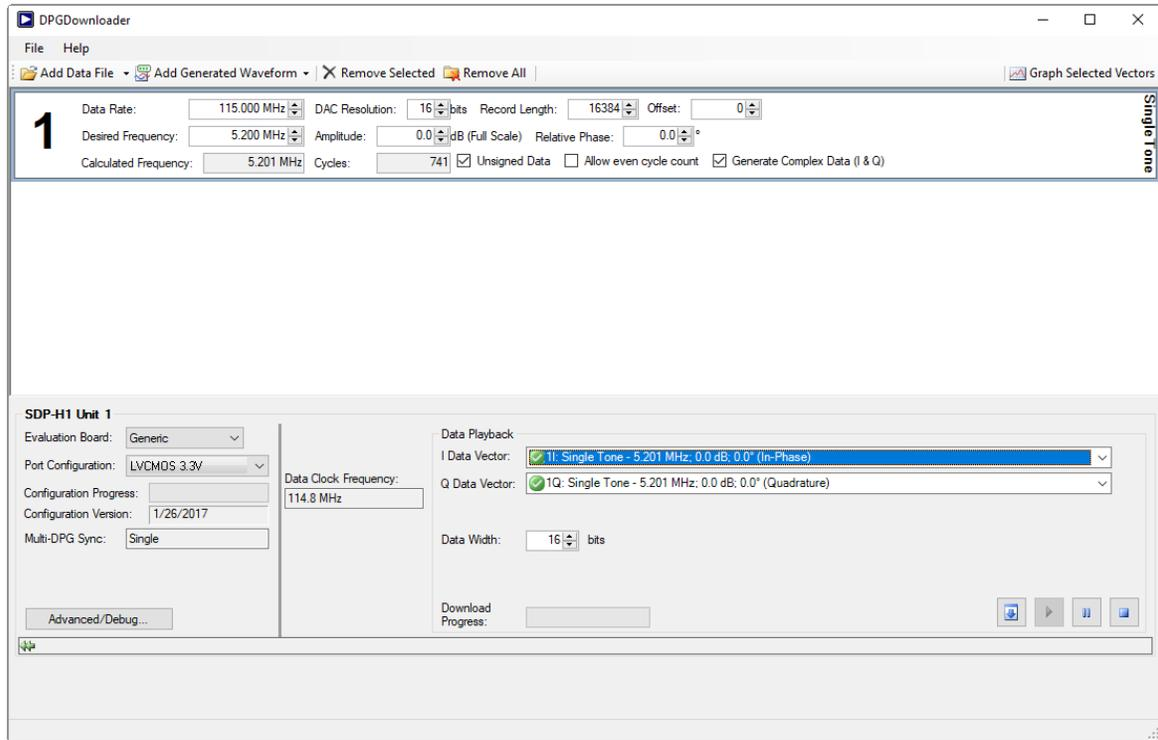

Figure 29. SDP-H1 Unit 1 Panel
10. In the **SDP-H1 Unit 1** panel (see Figure 29), select the **Generic** option from the **Evaluation Board** dropdown menu and select the **LVC MOS-3.3V** option from the **Port Configuration** dropdown menu.